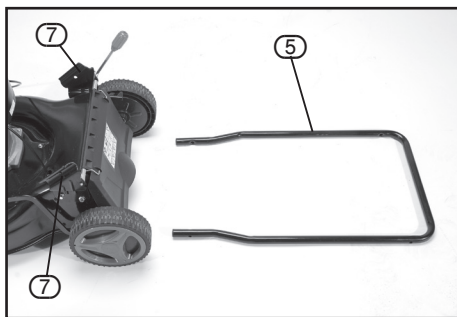

FIG. 1
8.1 ASSEMBLING THE HANDLE – FIGS. 1 – 4